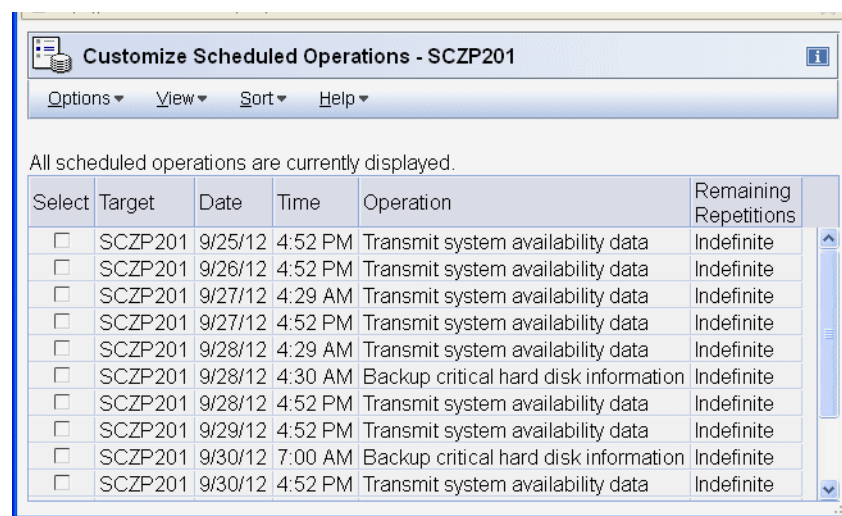

Figure 1-76 Customize Scheduled Operations - access external time source removed
5. The final Customize Scheduled Operations panel confirms: there are no more access external time source scheduled operations to be executed (Figure 1-76).